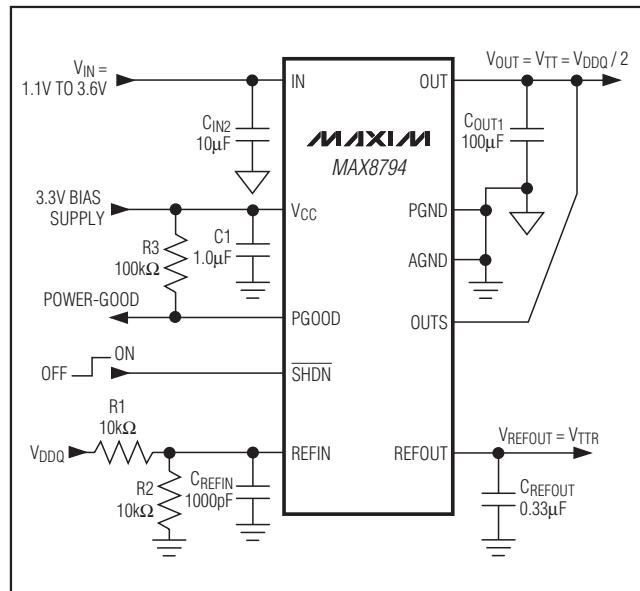

Figure 1. Standard Application Circuit
( $V_{IN} = 1.8V$ ,  $V_{CC} = 3.3V$ ,  $V_{REFIN} = V_{OUTS} = 1.25V$ ,  $SHDN = V_{CC}$ , circuit of Figure 1,  $T_A = -40^\circ C$  to  $+85^\circ C$ , unless otherwise noted. Typical values are at  $T_A = +25^\circ C$ .) (Note 1)
(Circuit of Figure 1.  $T_A = +25^\circ\text{C}$ , unless otherwise noted.)
The MAX8794 is a low-voltage, low-dropout DDR termination linear regulator with an external bias supply input and a buffered reference output (see Figures 1 and 2). VCC is powered by a 2.7V to 3.6V supply that is commonly available in laptop and desktop computers. The 3.3V bias supply drives the gate of the internal pass transistor, while a lower voltage input at the drain of the transistor (IN) is regulated to provide VOUT. By using separate bias and power inputs, the MAX8794 can drive an n-channel high-side MOSFET and use a lower input voltage to provide better efficiency.
The MAX8794 regulates OUTS to the voltage set at REFIN, making the MAX8794 ideal for memory applications where the termination supply must track the supply voltage. Typically, REFIN is set by an external resistive voltage-divider connected to the memory supply (VDDQ) as shown in Figure 1.